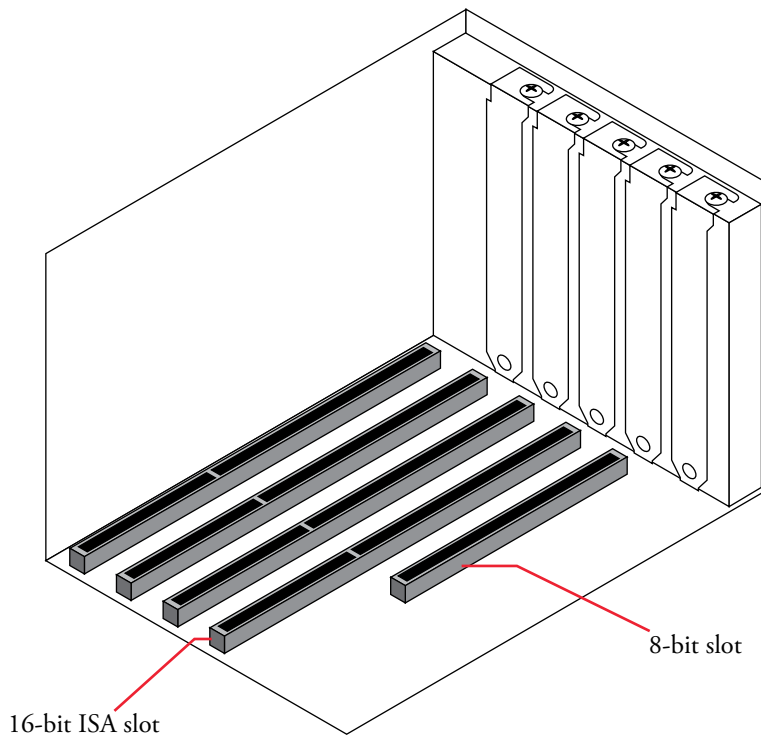
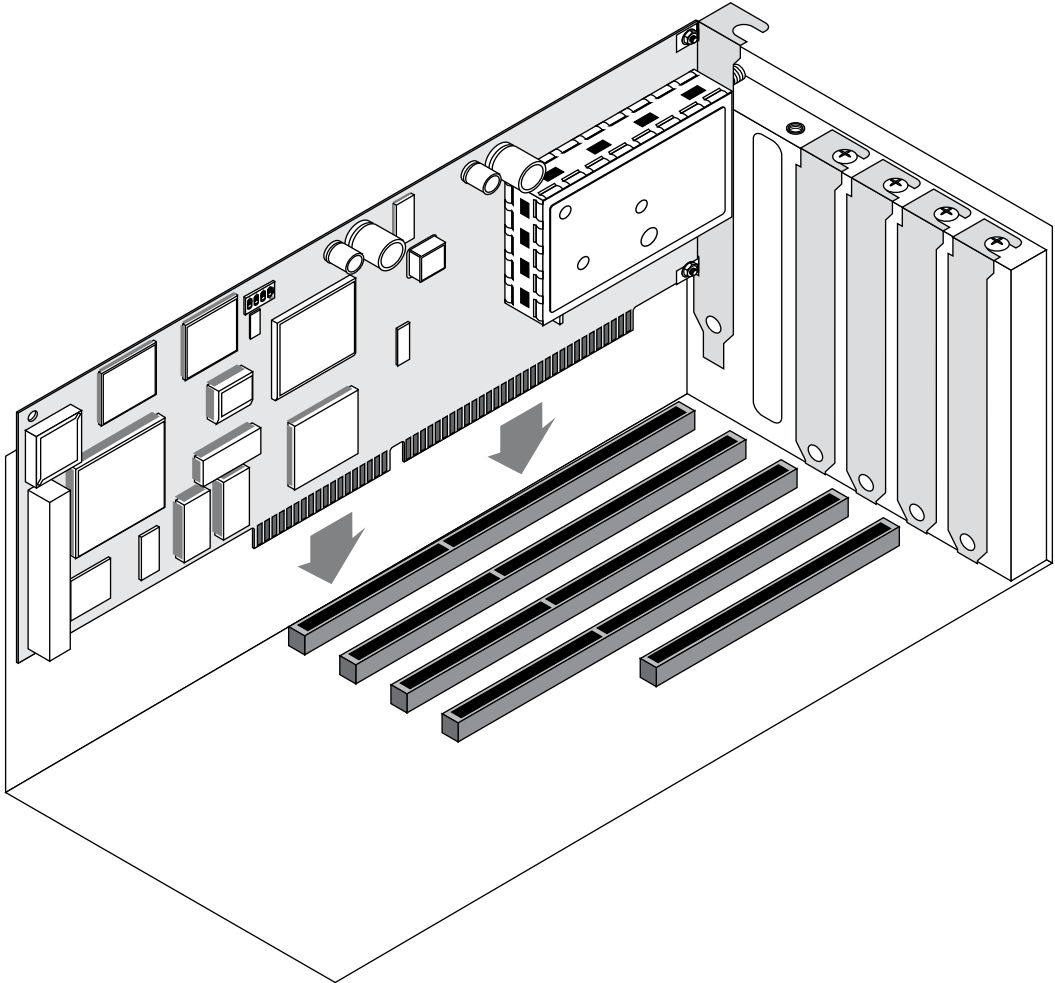

Figure 2-3. Locating an ISA expansion slot
Figure 2-6. Installing the DirecPC adapter into the slot
1. Switch off your personal computer (PC) and all peripheral devices, and unplug the power cord from the outlet.
4. Locate a free 16-bit Industry Standard Architecture (ISA) expansion slot inside your computer. A 16-bit slot has two connectors, one slightly shorter than the other (see figure 2-3), as opposed to the 8-bit slot, which has only one connector.
8. Install the DirecPC adapter into the slot as follows: while being careful not to damage the cable connector (see figure 2-3 for location), align your adapter's slot connector with the ISA expansion slot and firmly press on the adapter until it is fully seated into the slot (see figure 2-6).